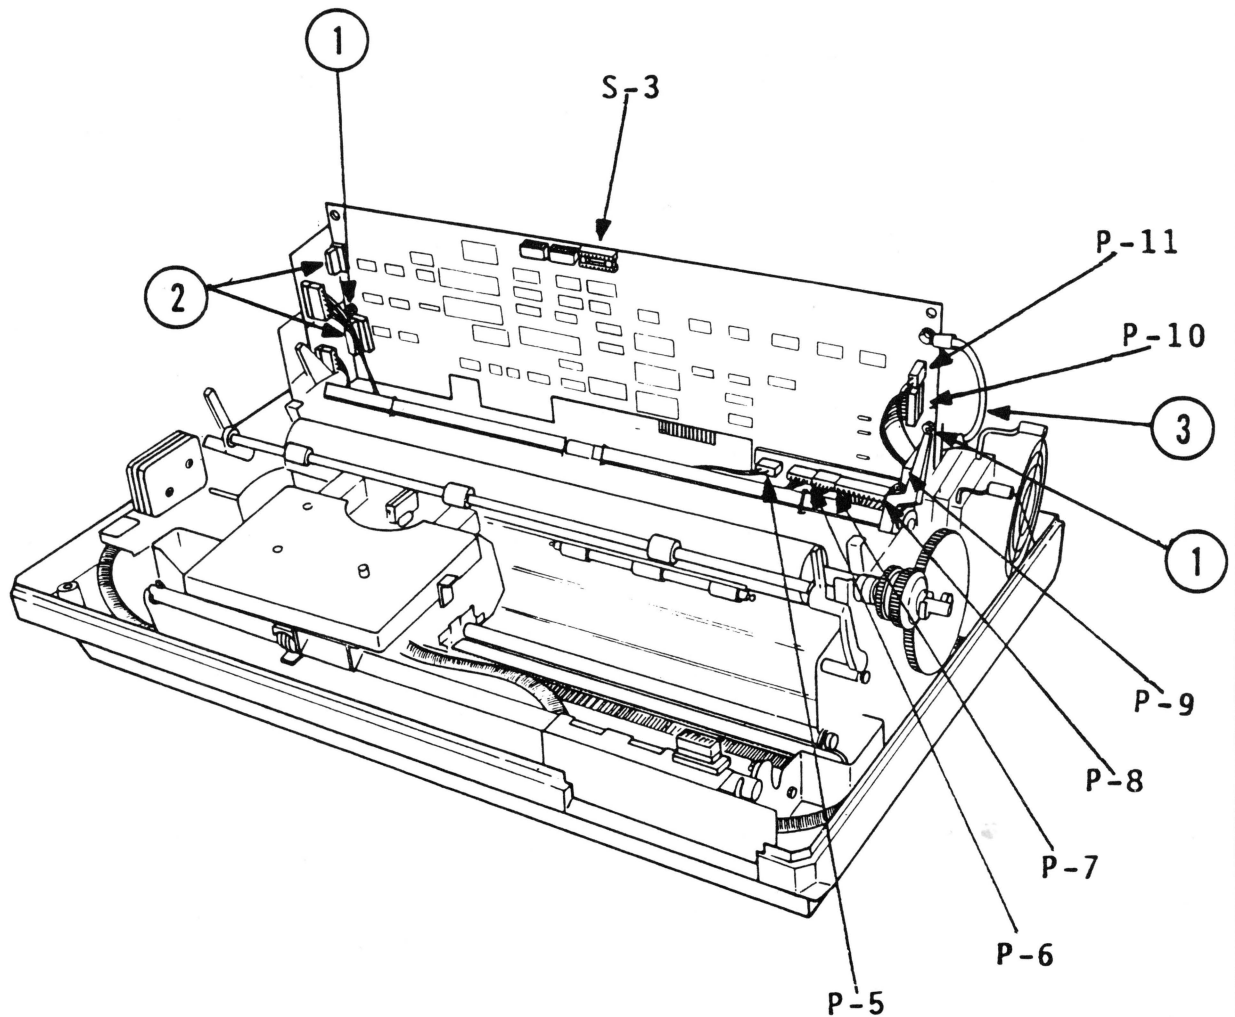

FIGURE 2
1. Return main PCB to service position (use midpoint holes for the two fasteners). (See Figure 2, #1.)
2. Reconnect ground wire. (See Figure 2, #3.)
4. Plug in the two encoder PCB's. (See Figure 2, #2.)